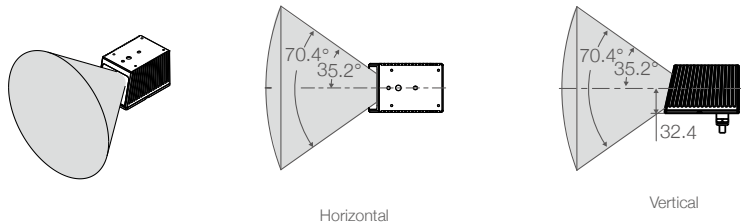

Figure 3.1.1 Effective FOV of the Mid-70
- 3. When mounting the Mid-70, the field of view must not be blocked by an object, including glass. Refer to Figure 3.1.1.